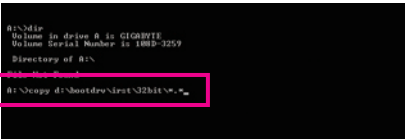

Figure 1
- For the Intel P55, type (Figure 1): ^(Note)